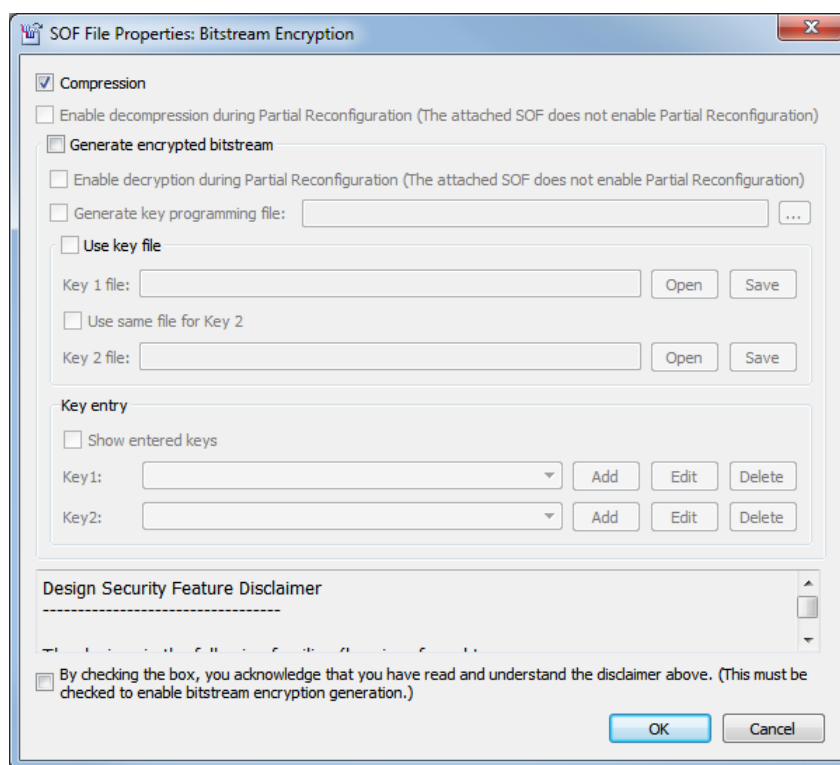

Figure 11. Enabling file compression.
- Click and highlight the newly added .sof file in the list, then select **Properties**. You should see the window shown in Figure 11. Enable file compression by ticking the checkbox as shown, then press OK.